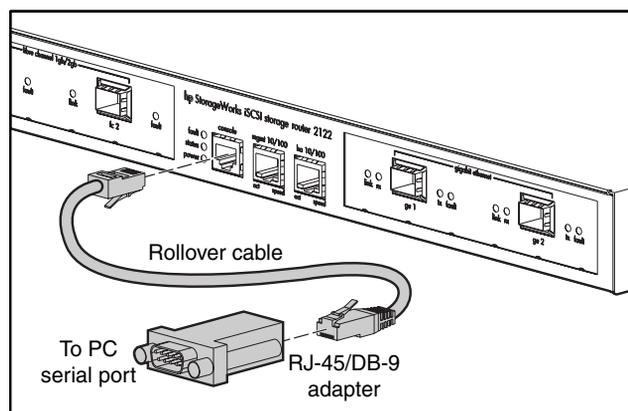

Figure 26: Connecting the console cable
3. Connect one end of the supplied console cable (a rollover RJ-45-to-RJ-45 cable) to the console port. Connect the other end to the RJ-45-to-DB-9 adapter at the PC serial port (see Figure 26).